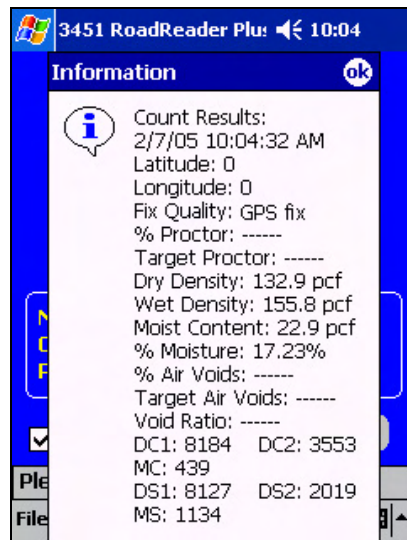

Figure 4–38. Count Results Display
41. From the RoadReader Plus main menu, click the **⟨Change Settings⟩** button. The PDA displays the **Change Settings** menu (see Figure 4–39).
42. Click the **⟨Gauge Setup⟩** button on the **Change Settings** menu. The PDA displays the **Gauge Setup** menu (see Figure 4–40).